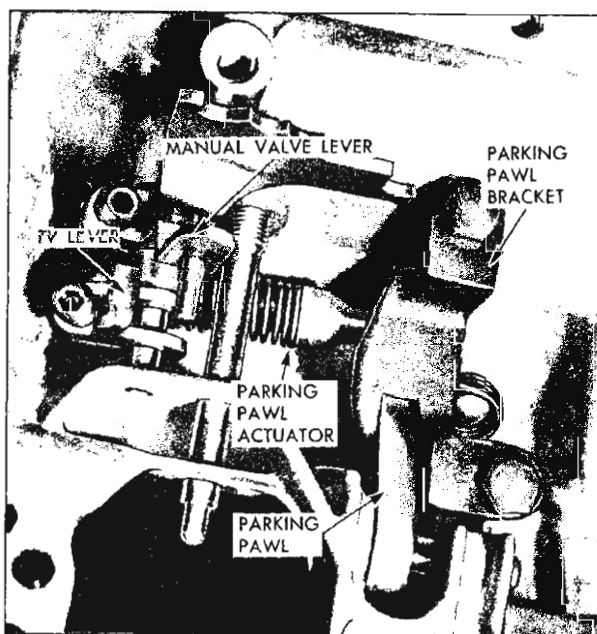

Fig. 17PG—Inner Control Levers, Parking Pawl and Bracket
26. If necessary, the TV, shift and parking actuator assembly levers, and the parking pawl and bracket (fig. 17PG) may be removed.